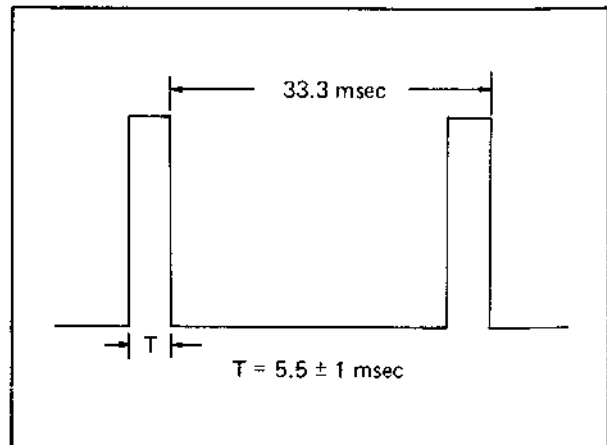

Fig. 5-5 CTL monostable
3. Adjust R148 (CTL MM) of the SERVO board so that T becomes equal to $5.5 \pm 1 \text{ msec}$ as shown in Fig. 5-5.